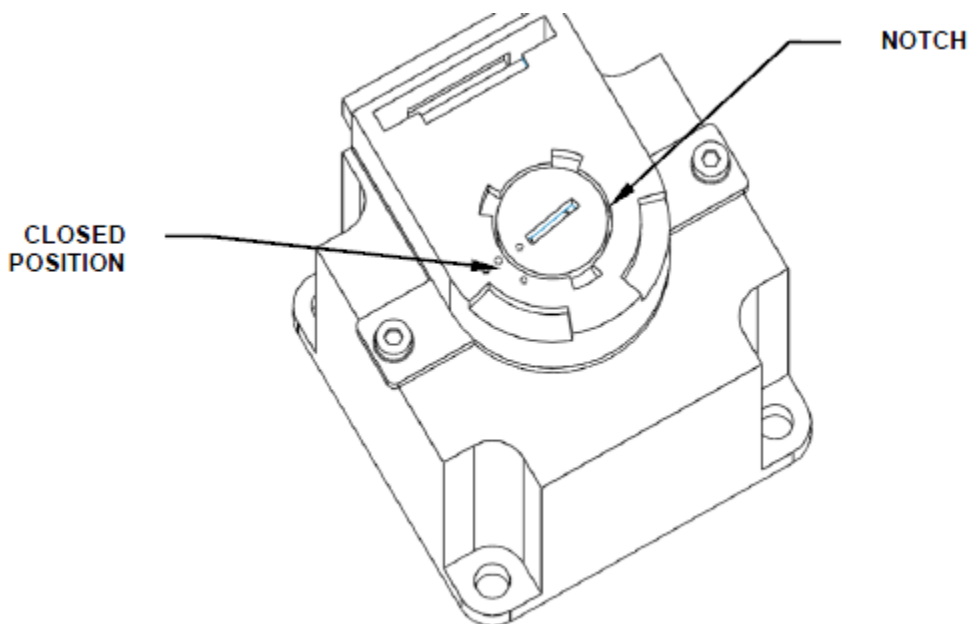

Figure T-8: Rotating the Encoder Position
5. Rotate the encoder cover from the open to the closed position by inserting a small flat blade screwdriver into the notch and rotating as shown in Figure T-8. The encoder cover is shown in the closed position in the figure.